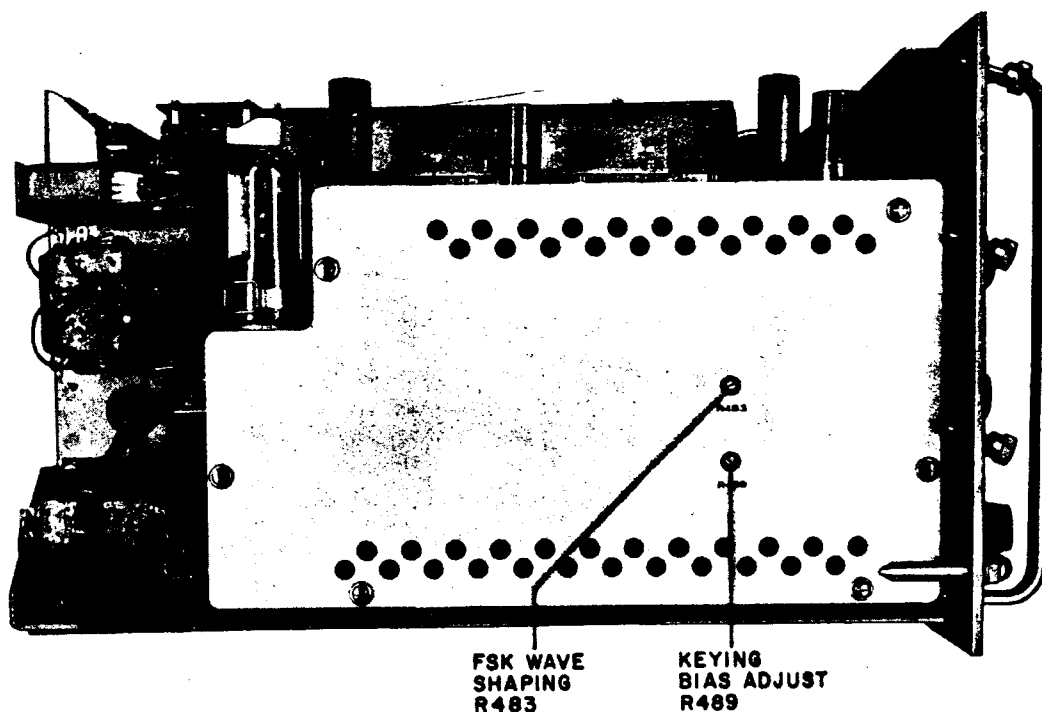

Figure 6-10. Radio Frequency Oscillator O-621/WRT-1, Lefthand Side, Electrical Adjustments
Step 11. Refer to figure 6-10 and adjust FSK WAVE SHAPING control R483 until the positive half-cycle of the output is equal in duration to the negative half-cycle.
Step 18. Refer to figure 6-10 and adjust KEYING BIAS ADJUST potentiometer R489 until the output goes slightly positive